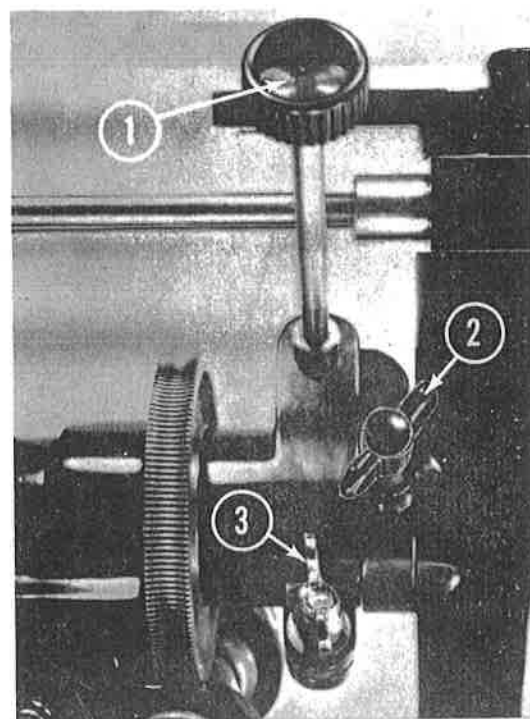

Fig. 2: Right Ascension Controls - Models 160 and 166
- F) For 4" models only (refer to Fig. 2): An added feature on these models is the dual clamping system on the polar axis. In addition to the auxiliary right ascension control rod and the fast motion clamp (2-3), a short wing screw (2-2) is provided. The observer will find that the auxiliary control (2-1) is sometimes difficult to reach when the telescope is pointed in certain directions. By loosening both the clamp screws (2-2) and (2-3) simultaneously, the entire clamping collar may be repositioned about the polar axis. Loosening either clamp individually will permit fast motion about the polar axis.